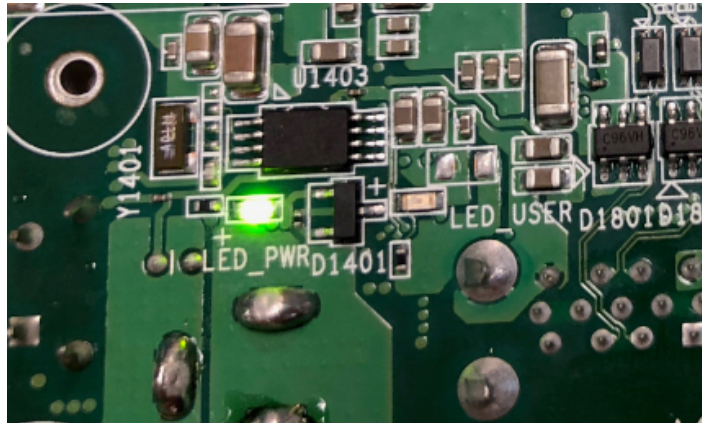

Figure 2.27
- After booting, the display boot screen is shown in Figure 2.27. The debug window is shown in Figure 2.28.